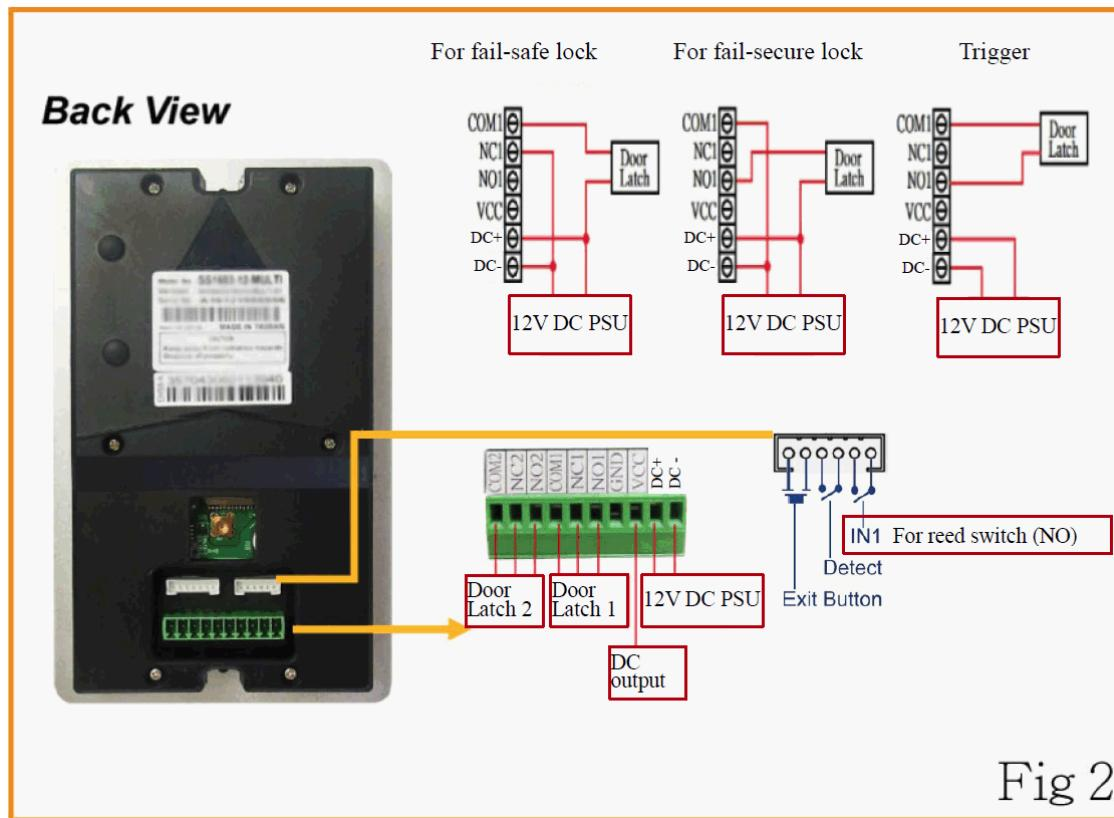

Fig 2
2. Connecting with the door lock system (Fig 2)